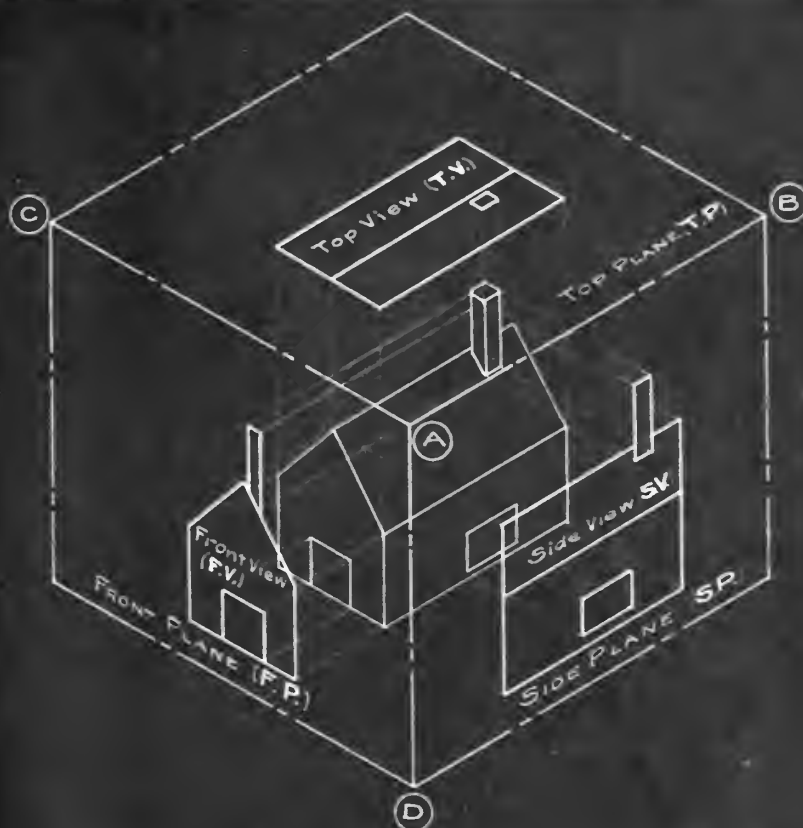

Fig. 1
1. Consider object surrounded by THREE PLANES, F.P., S.P., and T.P. as shown (Fig. 1).
3. The intersection of these rays and their respective planes will trace Three Views, F.V., S.V., & T.V. as shown (Fig. 1).